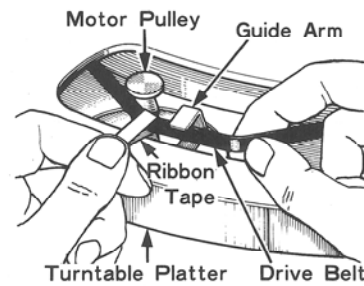

Fig. 4 How to Attach the Belt
3. Place the turntable platter on the center shaft, and attach the drive belt to the motor pulley and guide arm. This can be done easily by using ribbon tape as shown in Fig. 4.